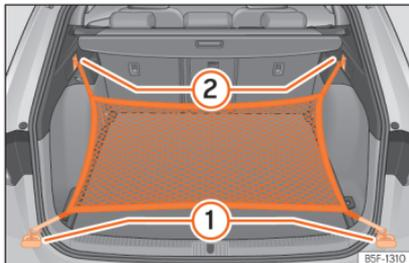

Fig. 133 In the luggage compartment: rings (1) and hooks (2) for attaching the net bag.
- Secure the short net hooks to the fastening rings »» Fig. 133 (1) »» ⚠. The bag zip should be facing upwards.
- Secure the straps in the bag hooks (2).